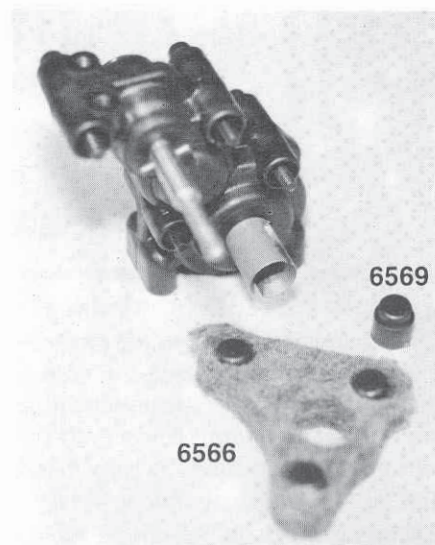
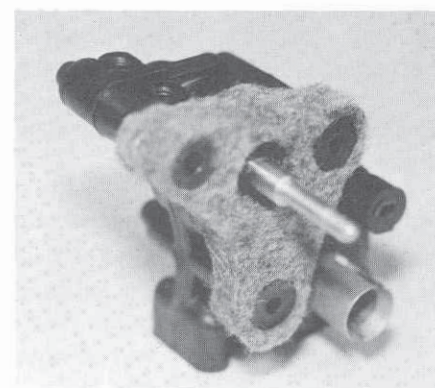

Fig. 59
Fig. 60
□ **Figs. 59, 60 & 61** 1) Back in bag C you will find the four #6569 motor plate spacers and the case dust end cap on the remaining parts tree. 2) Remove the five parts from the tree. Set the end cap aside for a moment. 3) In bag F you will find the #6566 felt dust seal. 4) You will need to carefully remove the three felt cutouts where the motor plate spacers will go (fig. 59). 5) We can now install three of the motor plate spacers into the felt seal like this: The felt seal will only go on one way, so line it up over the holes in the case, before you start, so you will know how it is installed. Lay the felt seal down with the case side up. Install the three #6569 spacers so that the small end is pointing up. The small ends of the spacers will fit into the case holes on the right side of the case. The fourth spacer will fit into the bottom front hole which is not covered by the felt dust seal. 6) Now install the felt seal and three spacers over the drive shaft and onto the case as shown (fig. 60). The spacers will also be going over the threaded ends of the four #6928 case screws. 7) Install the fourth motor plate spacer in the front hole.